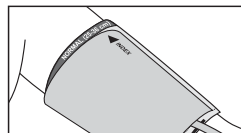

Fig. 10
5. On the fixed cuff the sign "index" should point to the area "normal (25-36 cm)". it means that the cuff is chosen correctly and fits the size of your upper arm. if the sign points to the area marked «» or to the left, the cuff is too small and the readings will be higher. If the sign points to the area marked «» or to the right, the cuff is too large and the readings will be lower (Fig. 10).